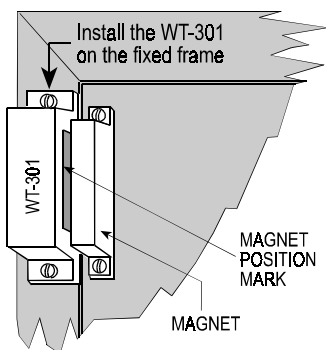

Figure 4. Surface Mounting
A. Surface mounting (see Figure 4):